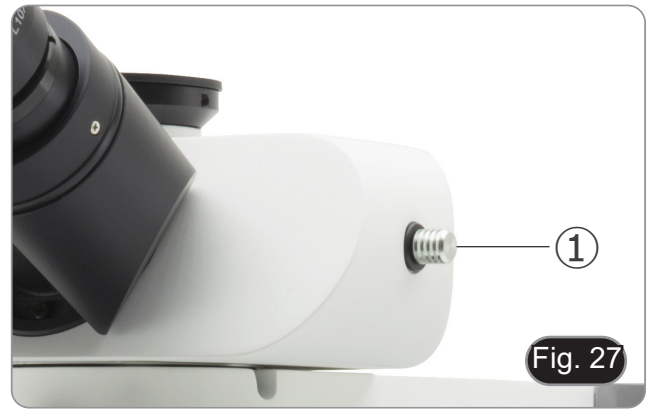

Fig. 27
- Move the selector ① to one of the three possible positions to distribute the light. (Fig. 27)